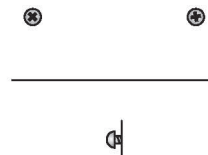

Fig. 3
3. Drill 2 holes on the marks and plug in the provided anchors. Then screw in the provided screws keeping a little distance between the screw head and the wall so the mounting base can slide in place (Fig.3).